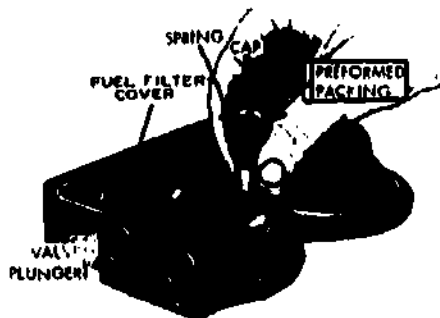

Fig 3-6. Filter relief valve.
g. Relief valve (fig 3-6). A relief valve is located in the fuel filter cover. The primary purpose of this valve is to control maximum fuel pressure. This valve is needed in case either of the filter elements becomes plugged. Since the fuel supply pump is of the positive type, it can build up enough pressure to damage itself and other fuel system parts if the fuel flow is blocked. By using the relief valve when the filters become plugged, fuel pressure will only build up enough to overcome the relief valve spring and force the valve open. Fuel flowing through the open valve is carried back to the fuel tank through the fuel return line.